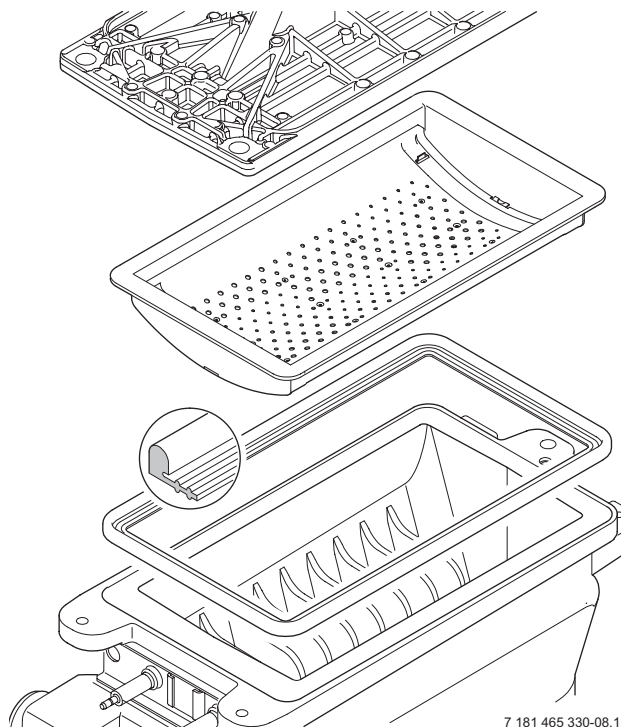

Fig. 55
- ▶ Remove the burner skin and clean components. Do not use a wire brush. Refer to fig. 55.